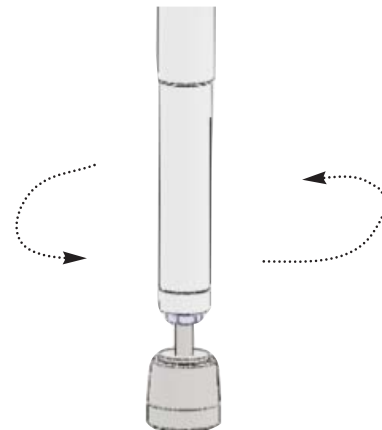

Figure 26
**E Leveling:** The roll-in and tub sections must both be level and equal in height. To further adjust the height on the tub section legs, rotate the crutch tip feet clockwise or counterclockwise (Refer to Figure 26).